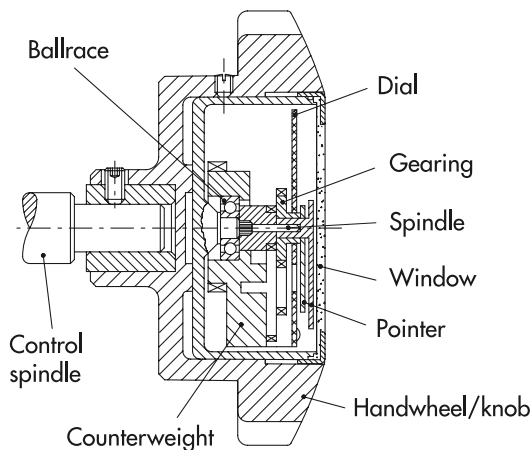

Fig.1
- 1.2 The movement is housed in a sealed case (fig. 1). It consists of a counterweight system, fitted on a precision ballrace, which rotates on a central spindle integral with the indicator case, fitted on the handwheel/knob. At the end of the spindle there is a red pointer, which rotates with the handwheel/knob. A series of gears with different ratios transmits the rotation of the spindle to a black pointer. On the counterweight is also fixed a graduated dial. If the indicator is fitted on spindles with horizontal position (or max 60° inclined) the dial is kept still by the gravity force and the pointers rotate over it when the handwheel/knob turns.